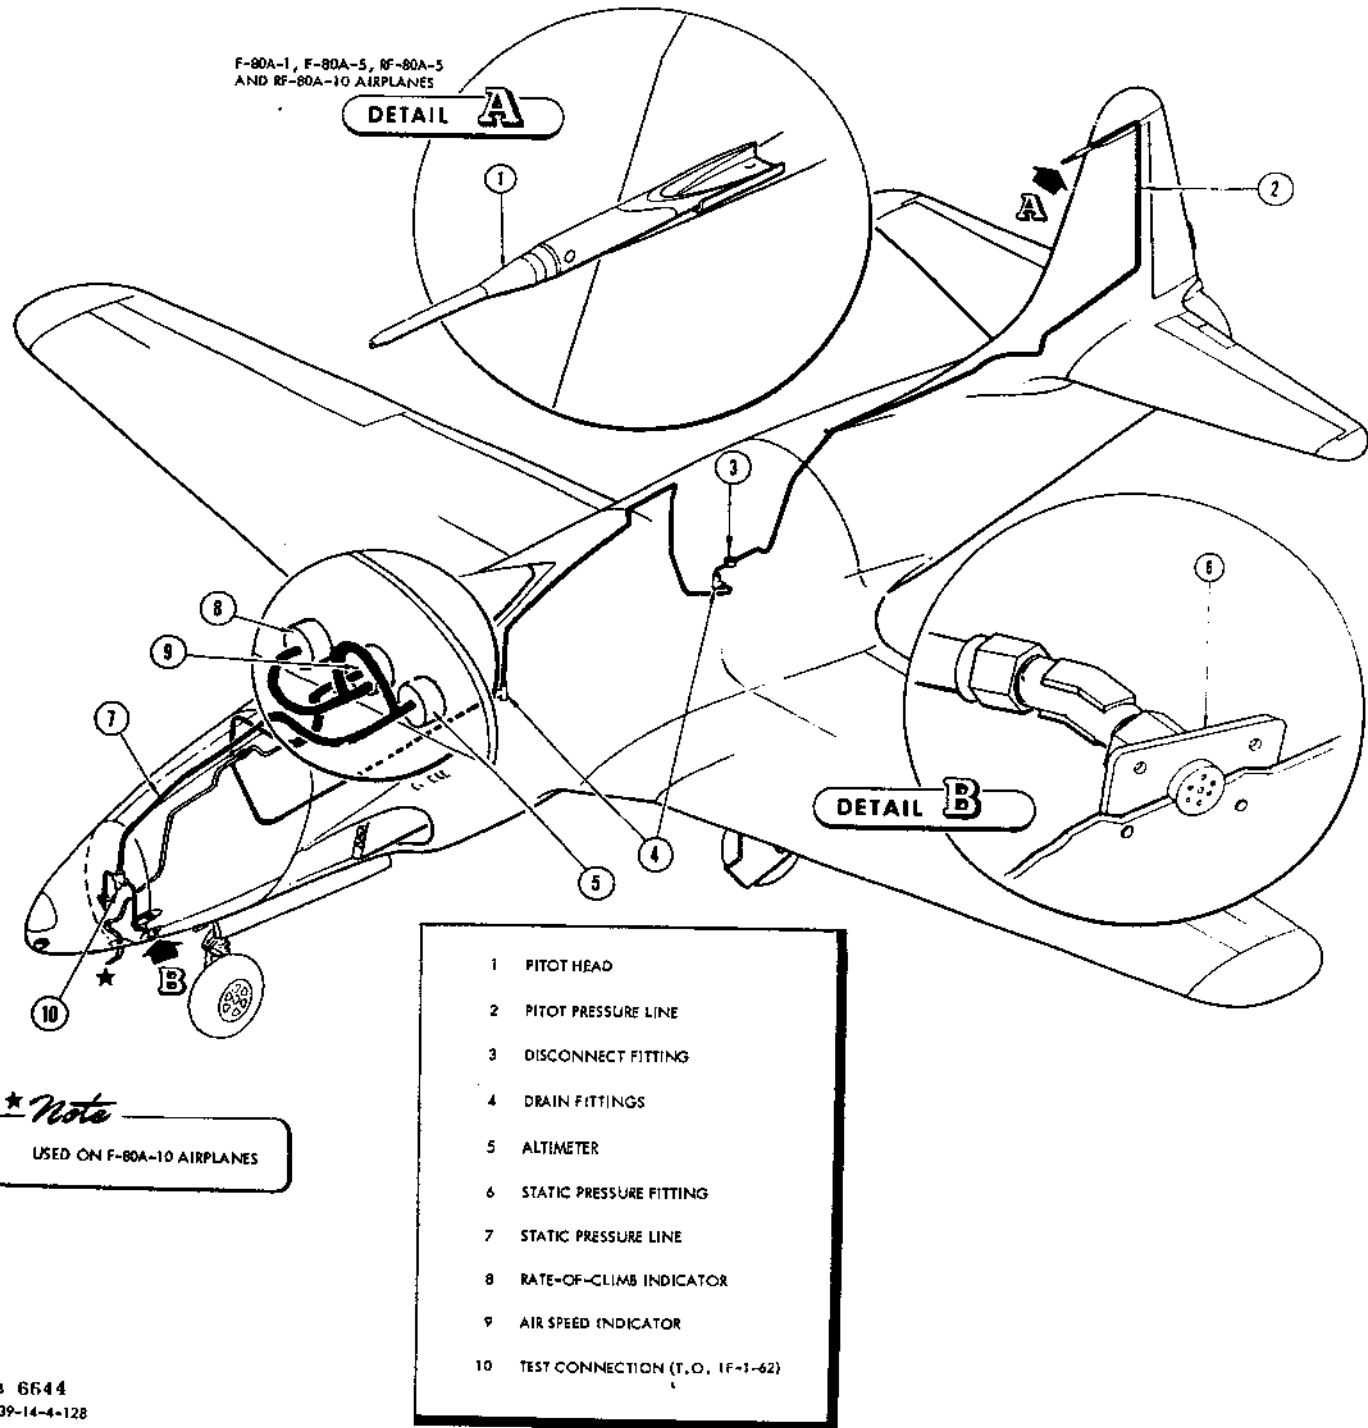

Figure 128—Pitot Static System
d. PITOT SYSTEM. (See figure 128.)—Three external fittings for the pitot-static system are installed on the airplane.